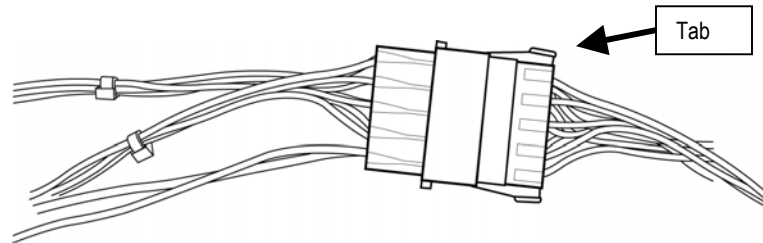

Figure 3.4 Large white Molex battery disconnect
2. Remove the (4) Phillips pan-head screws in the battery tray.
4. Disconnect the batteries from the white Molex DC power connector (see figure 3.4